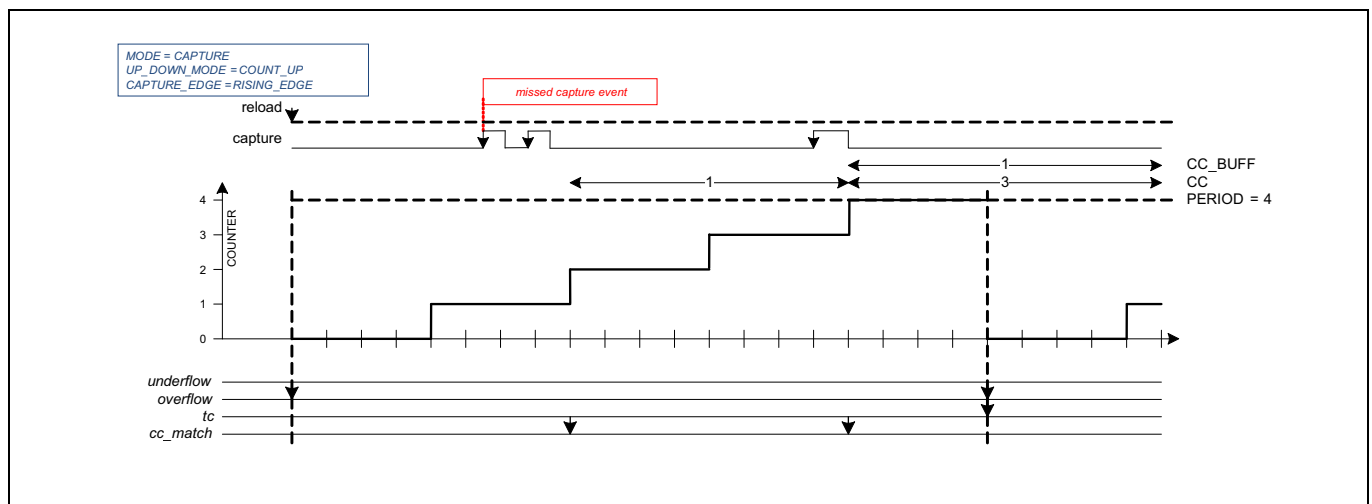

Figure 17-3. Multiple rising edge capture
- In the rising edge and falling edge modes, multiple events are effectively reduced to a single event. As a result, events may be lost (see Figure 17-3).